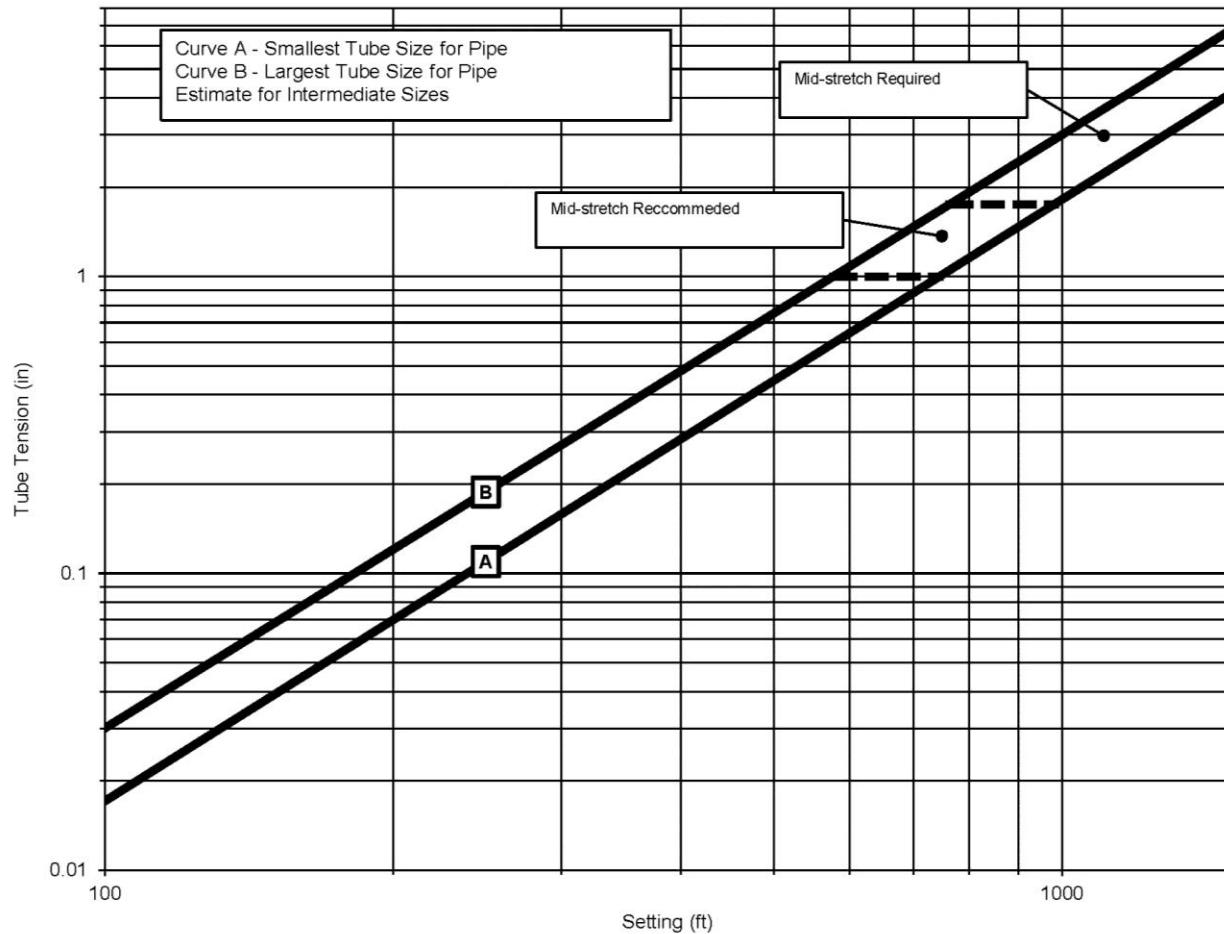

Figure 6-2 – Tube Size & Setting Depth Verse Required Tube Tension
4. Place o-ring on tension nut and thread tension nut on to tube tension bearing until nut is snug against discharge head. Continue to tighten tension nut until the minimum amount of tension is achieved for the pumps setting length per figure 6-2 below. Install four (4) tension nut cap screws.
For oil lubricated, deep set pumps a mid-stretch assembly may be required. Figure 6-2 shows the ranges of pump setting where mid-stretch assemblies are recommended and required. A mid-stretch assembly is used to pull some tube tension in an application where the tube tension required for the total setting depth would be difficult or impossible to achieve at the tension assembly seal in the discharge head.
For example, a pump set at 1000 feet would require between 1.1"-1.2" of tension (per Figure 6-2), which could be difficult to achieve at the tension assembly alone so a mid-stretch assembly is used. The pump is built up as normal for the first 500' of column and at 500' a mid-stretch assembly is installed in the column. Since there are 500' of enclosing tube with no tension, figure 6-3 is used to determine that .35-.75" of tension is needed (depending on the tube size) for the 500' of setting so far. The .35"-.75" of tension for the first 500' is pulled at the mid-stretch assembly and then the remaining 500' of column is built up as normal. Figure 6-2 is used to determine that .35-.75" of tension is needed (depending on the tube size) for the 500' of setting since the last mid-stretch assembly. The .35"-.75" of tension needed for the column since the last mid-stretch assembly is pulled at the tension assembly seal in the discharge head.